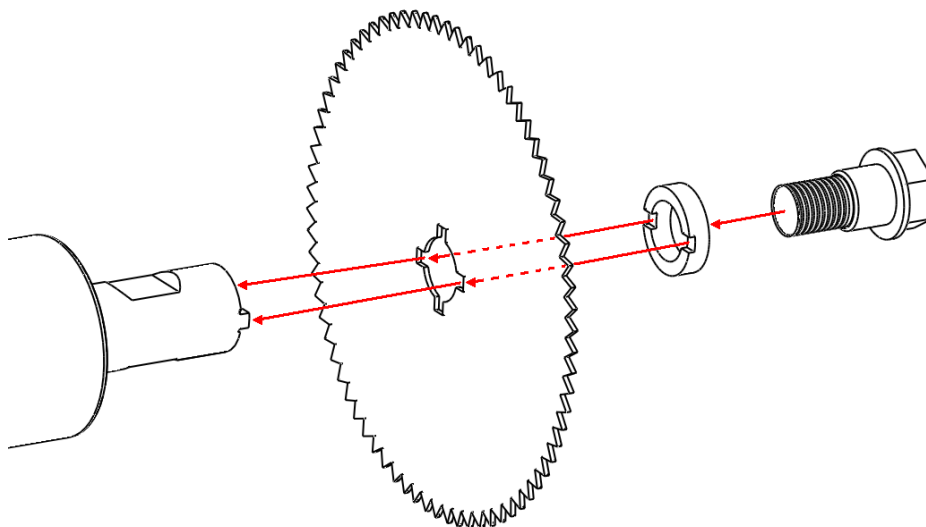

fig. 4 Inserting the saw blade
3. Position the fixing ring. The notches in the fixing ring must always be pointing towards the saw (see fig. 4). These must also be positioned precisely on the spigots.